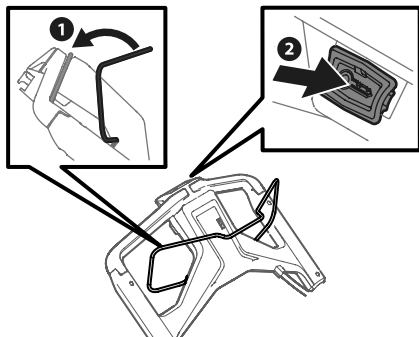

Figure 13
1. Standing behind the mower, pull the blade control back against the upper handle (Figure 13).